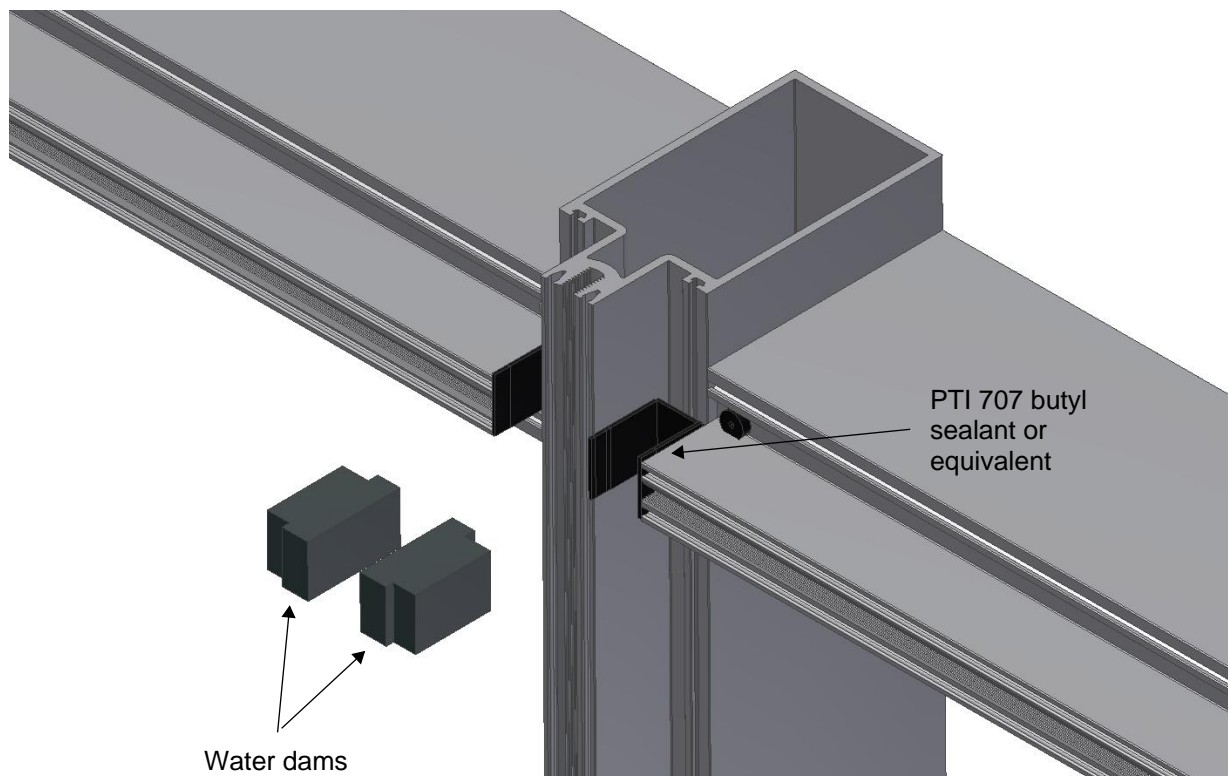

Figure 20: Push the water dams (PTB93) into the void between the horizontal rails.
- Push a pair of water dams (PTB93) into the void between the horizontal rails as shown in Figure 20.